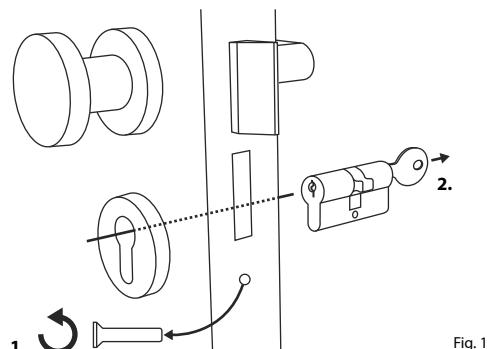

Fig. 1
- ① Remove the existing door lock cylinder by loosening the forend screw in the door and pulling out the cylinder with the key inserted (Fig. 1).